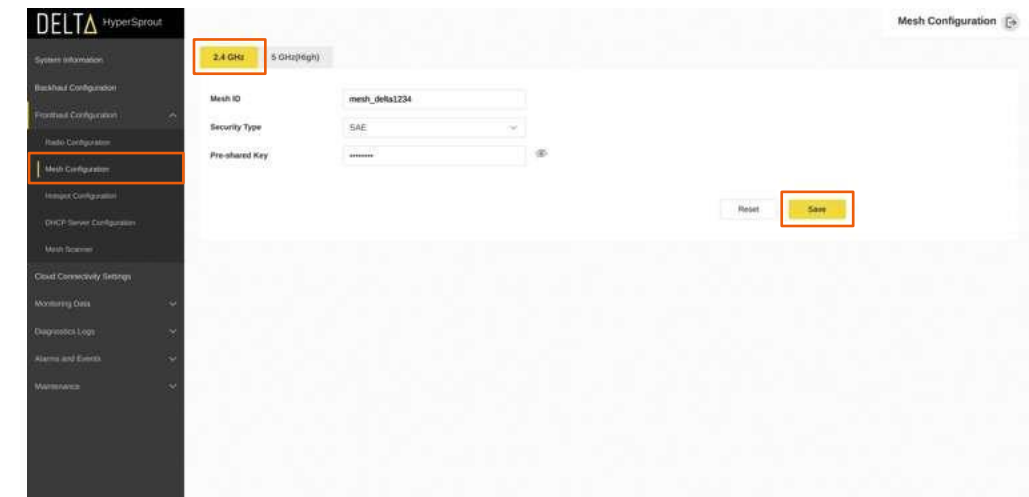

Figure 44: Mesh - 2.4Ghz
- a. To perform 2.4GHz mesh-related configurations, navigate to **Fronthaul Configuration** and then select **Mesh Configuration** and **2.4GHz**, where the **Mesh ID**, **Security Type**, and the pre-shared key can be configured. Once the configurations are done, click the **Save** button to save the required changes in 2.4GHz. See *Figure 44*.